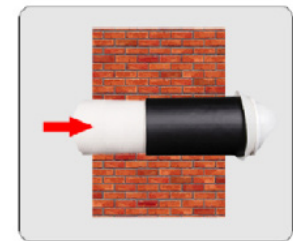

Figure 9
- 3) Use the 120 mm hole saw to drill through the wall at the marked position. Tilt the drill slightly (4–5 degrees) to prevent debris from falling into the room (see Figure 9).
- 4) Use impact drill to drill to ① - ⑥ fixed holes with diameter 8 mm depth 40-50 mm.
- 7) Seal the gap between the ventilation pipe and wall cavity with foam sealant. (Figure 9)